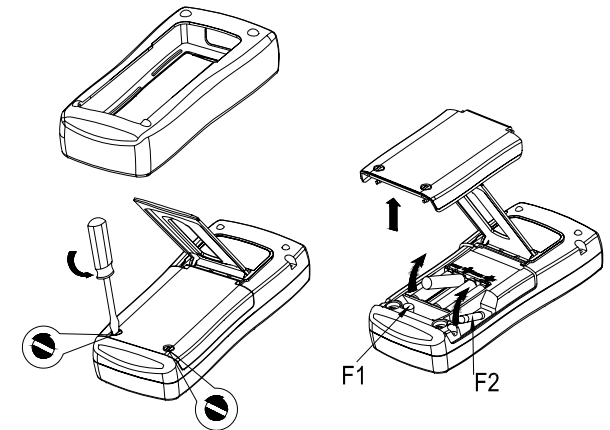

Figure 14 Replacing batteries and fuses
Step 2: Remove the protector as shown in Figure14.